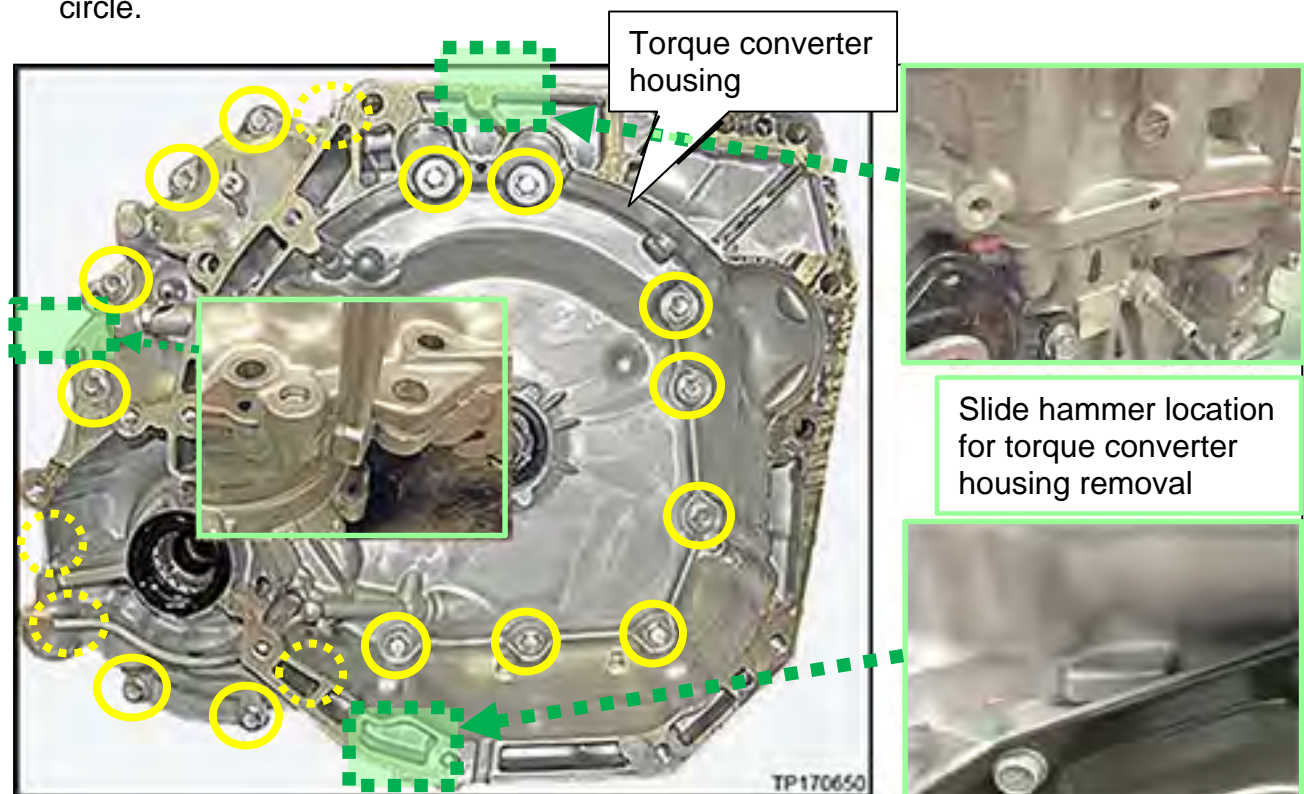

Figure 66
43. Remove the nineteen (19) bolts circled in yellow shown in Figure 66 from the torque converter housing.
NOTE: The bolts that are not visible in Figure 66 are indicated with a dotted yellow circle.
- If necessary, use a Slide Hammer J-25721-A at the three locations (highlighted in green) shown in Figure 66.